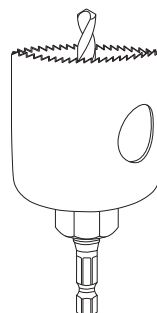

Fig. 3
### (OPTIONAL) RECESSED MOUNTING (Fig. 3 & 4)
1. Drill a hole through cabinet or shelf no larger than 2 13/64". A 2 1/8" hole saw is recommended (Fig. 3).